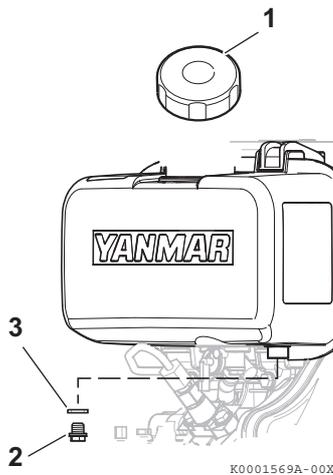

Figure 8
2. Remove the fuel cap (**Figure 8, (1)**).
3. Remove the fuel tank drain plug (**Figure 8, (2)**) and gasket (**Figure 8, (3)**) to drain the fuel.
9. Tighten the fuel tank drain plug (**Figure 8, (2)**) with new gasket (**Figure 8, (3)**).
10. Replace the fuel cap (**Figure 8, (1)**) and hand tighten. Overtightening the fuel cap will damage it. Refill fuel tank. **See Filling the Fuel Tank on page 21.**